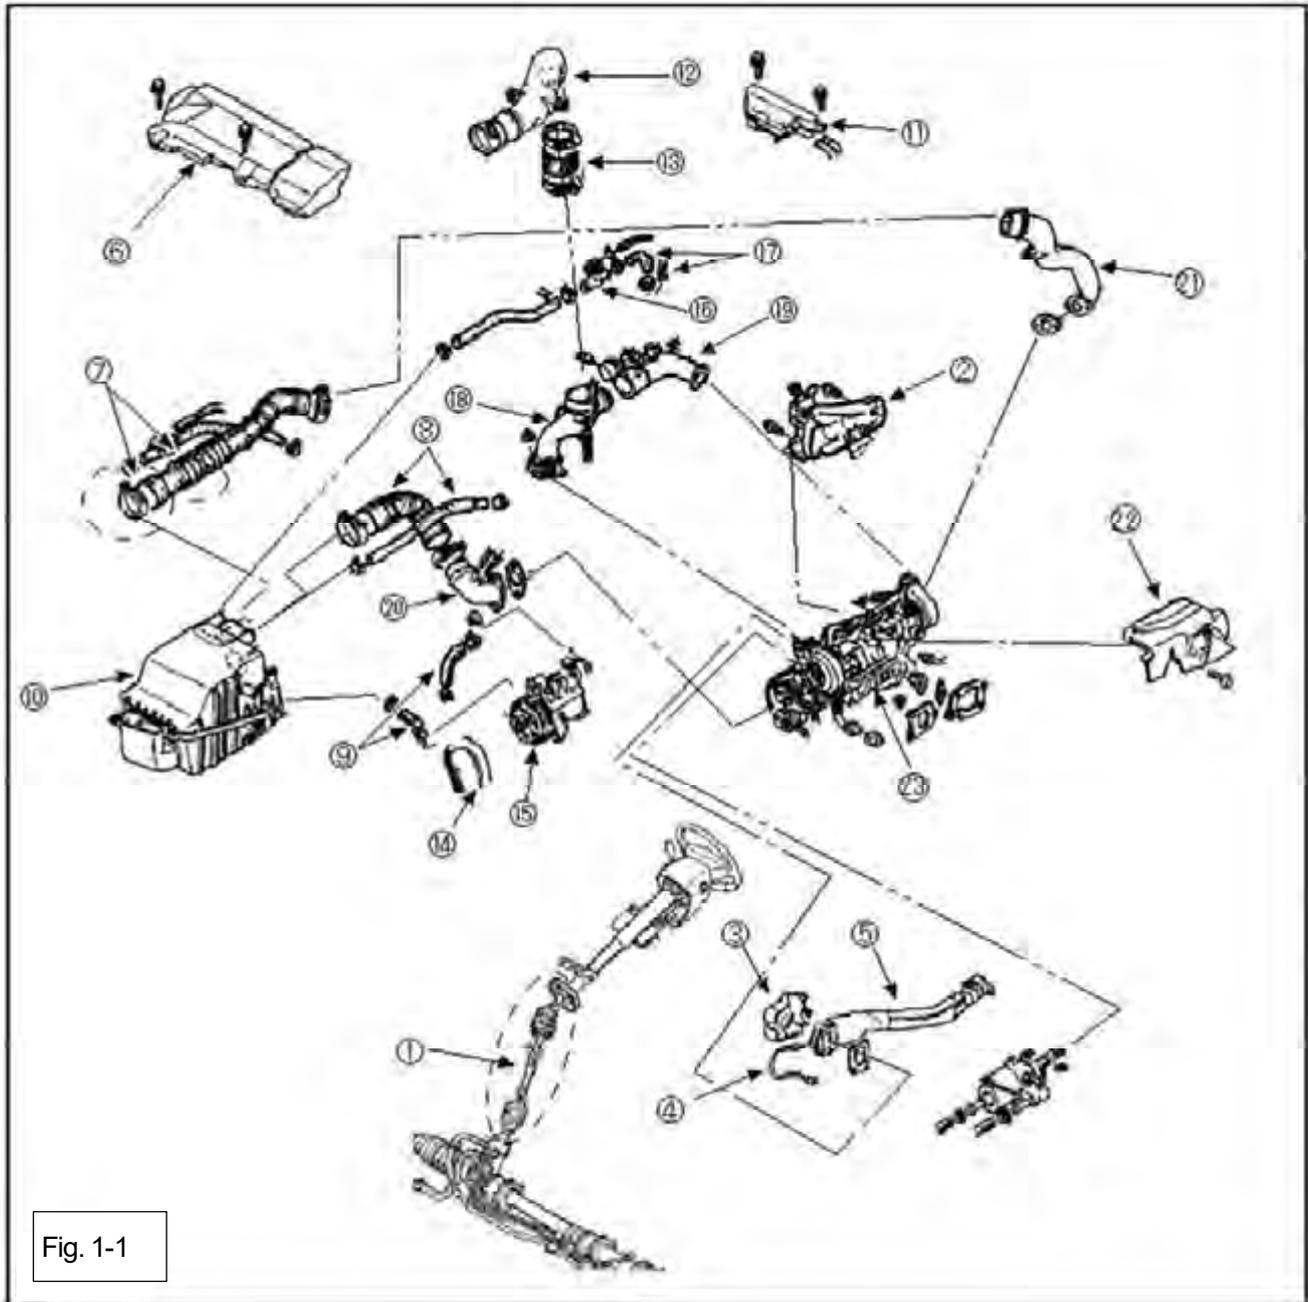

Fig. 1-1
- (1) Remove the under cover
- (2) Remove the mission cover.
- (3) Drain the cooling water.
- (4) Remove parts ① to ⑬ . (Fig. 1-1)
- (5) Remove the exhaust manifold.
- (1) Bend the stay (Fig. 2-1) on the removed intermediate shaft (Fig. 1-1).
- (2) Make sure that the turbocharger and exhaust manifold do not touch with each other when mounting the parts.
(5) Attach the intermediate shaft again. (Fig. 1-1)